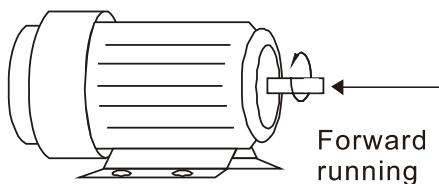

Figure 5-1
- When the AC drive output terminals U/T1, V/T2, and W/T3 are connected to the motor terminals U/T1, V/T2, and W/T3 respectively, the FWD LED indicator on the digital keypad is ON. This means the AC motor drive executes running forward, and the motor rotates counterclockwise (viewed from the shaft end of the motor, as shown in Figure 5-1).
On the contrary, when the REV LED indicator lights, the AC motor drive executes running in reverse, and the motor rotates in an opposite direction to Figure 5-1. If the AC motor drive executes running forward but the motor rotates in a reverse direction, exchange any two of the U/T1, V/T2 and W/T3 motor leads.